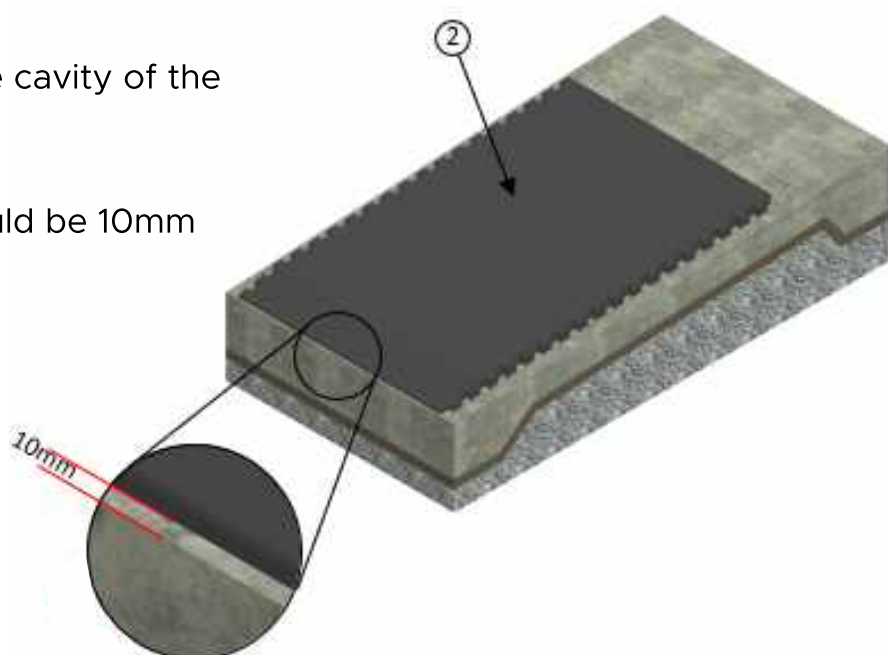

Figure 2
- The sloped edge of the mat should be 10mm from the heelstone (Figure 2).